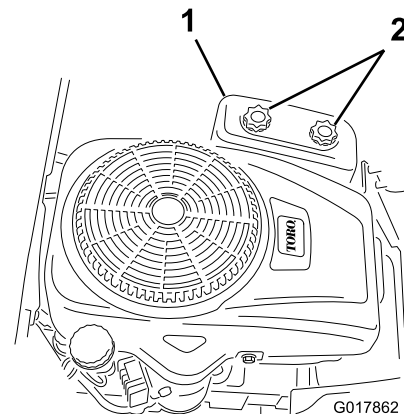

Figure 28
4. Remove the air cleaner cover by unscrewing the 2 knobs (Figure 28).
3. Install the air cleaner cover and tighten the two knobs (Figure 28).